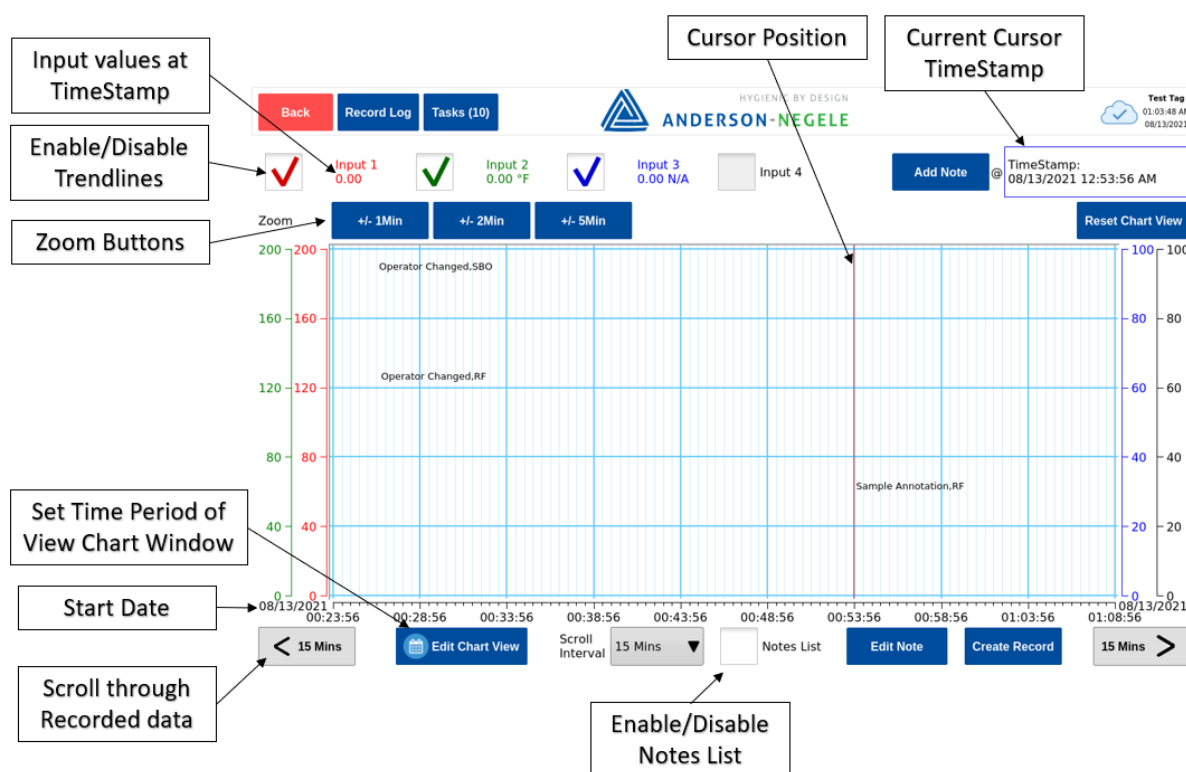

Figure 47: View Chart Screen
- Enable / Disable Trendlines – Shown as the configured input names in Figure 47, selecting this check box will enable (show) the trendline and deselecting will disable (hide) the trendline in the View chart screen.
- Start and End Date – Start Date of chart period is Shown in Figure 47, end date is located in the bottom right of the view chart screen.
- Time Scroll Button – Shown in Figure 47 as “Scroll through Recorded Data”, these buttons increment the chart when pressed by the Scroll Interval that is displayed on the face of the button.
- Notes List – Selecting this check box will enable (show) the Annotation List as seen in Figure 47 and deselecting will disable (hide) the Annotation List in the View chart screen allowing for the Chart to display on a larger portion of the HMI.